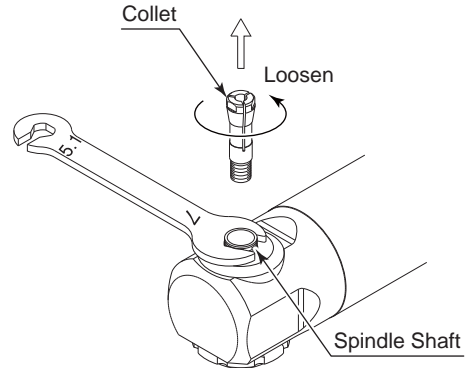

Fig. 5
- ① Remove the tool according to the section " 7. CHANGING THE TOOL " procedure above (Fig. 5).
- ② Place the provided 7mm wrench on the spindle shaft, and turn the top of the collet counterclockwise to remove the collet (Fig. 5).
- ③ Install the new collet into the spindle by turning it clockwise.